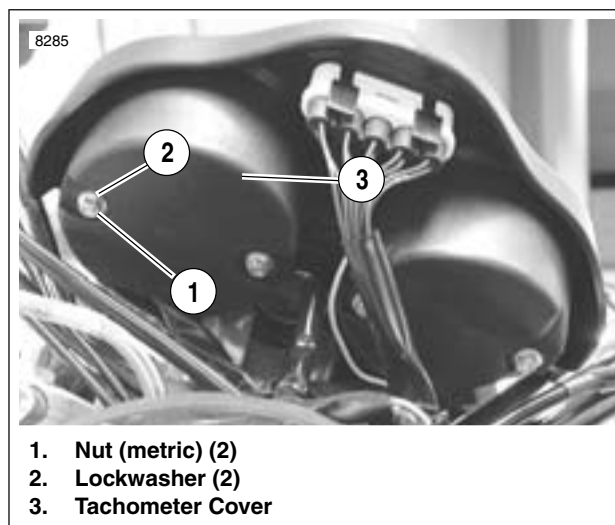

Figure 7-90. Dash Panel (Back)
3. See Figure 7-90. Remove two nuts (metric) and lockwashers from tachometer cover.